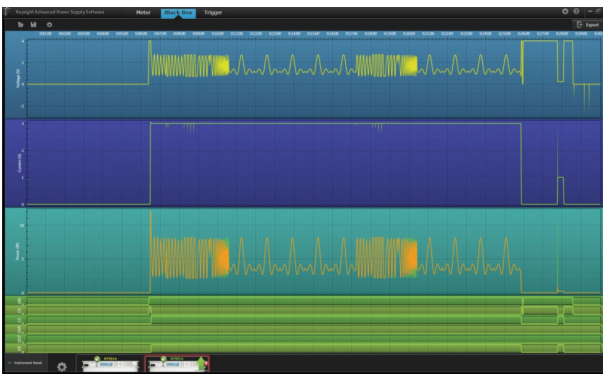

Figure 8. Black box recorder data displayed within the N7906A Power Assistant software
Much like a flight data recorder, the black box recorder (BBR) runs continually in the background, independent of what the power supply is doing. When the power supply is on, the BBR is recording power events and storing measurements in non-volatile memory. The BBR can be set for either a 24-hour record or a 10-day record period. In the 24-hour mode, measurements are made at a rate of 100 per second, and in the 10-day mode, they are made at a rate of 10 per second. The BBR data can be accessed via the free APS power assistant software (see Figure 8 on page 13). The BBR option works on all APS N6900 and N7900 power supplies. It is a factory-installed option available only at the time of purchase.
- Retrieve and view data from the optional APS power supply black box recorder (see Figure 8)